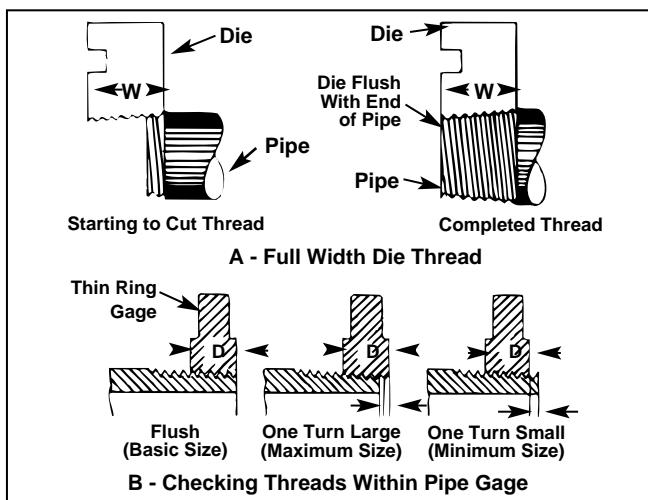

Figure 25 – Checking Thread Length
(Figure 25)
1. Thread is cut to proper length when end of pipe is flush with edge of dies (Figure 25, A).
2. Die Head is adjustable to obtain proper thread diameter. If possible, threads should be checked with a thread Ring Gage (Figure 25, B). A proper thread is cut when end of pipe is plus or minus one turn of being flush with face of ring gage.